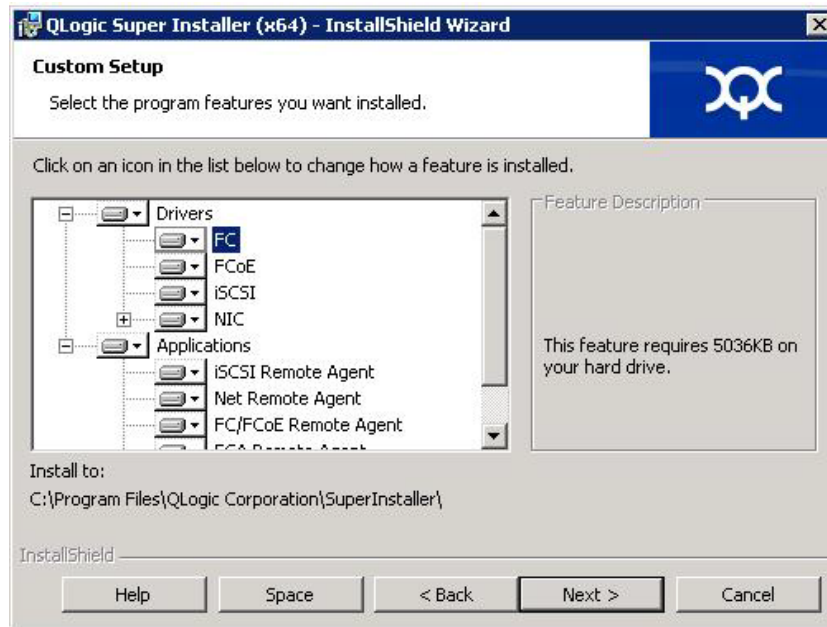

Figure 2-5. InstallShield Wizard: Custom Setup Window
6. If you selected **Custom** in Step 5, complete the Custom Setup window (Figure 2-5 on page 9) as follows: